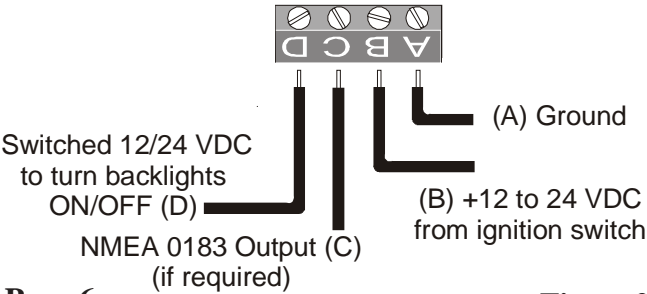

Figure 2
the connections to the screw terminal on the instrument case back as shown in figure 2.
- 1 Carefully check all your wiring against those shown in figure 2. If everything is wired correctly you can mount the CO60 in the instrument hole. Be sure the bulkhead gasket is in place and use only finger tension to tighten the bracket hold-down nuts. *Do not overtighten the bracket or you may damage the case - do not use tools to tighten the nuts.*